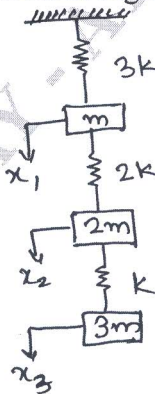

Fig.Q8
- 8 Explain Stodola's method. And determine fundamental mode of vibration and its natural frequency of spring mass system shown in Fig.Q8 by same method.